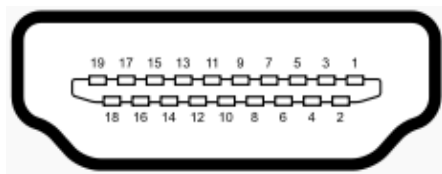

Figure 3-22: HDMI Connector Pinout Locations
- CN Pinouts:** See **Table 3-21** and **Figure 3-22**